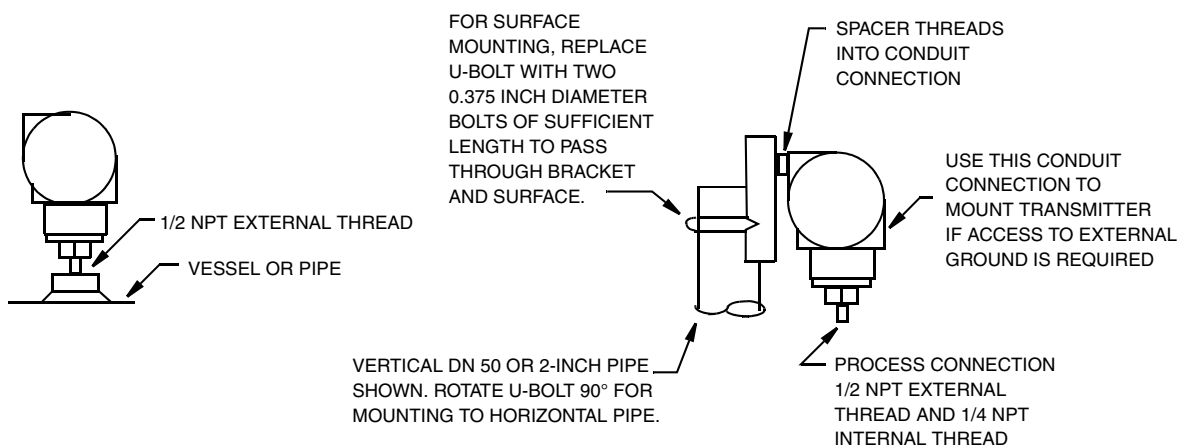

Figure 3. IAP10 and IGP10 Transmitter Mounting
The IAP10 and IGP10 transmitters with the 1/2 NPT external thread can be directly connected to the process or mounted to a vertical or horizontal pipe or a surface using the optional mounting set. See Figure 3.
2. Do **not** directly mount IGP10 transmitters with Span Limit Code G or H. Use the optional mounting set as shown in Figure 3.